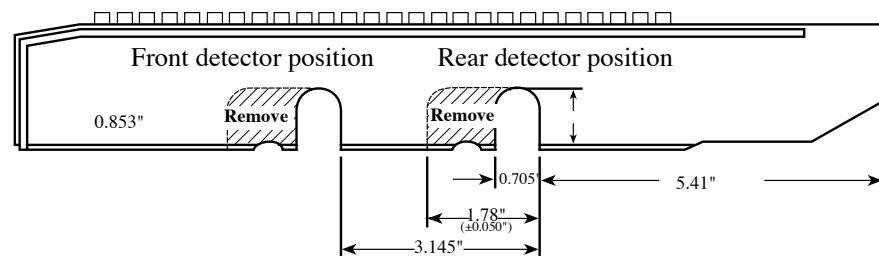

Figure 4.3. Preparing the top GC cover
- Cut a hole in the top GC cover (Figure 4.3).